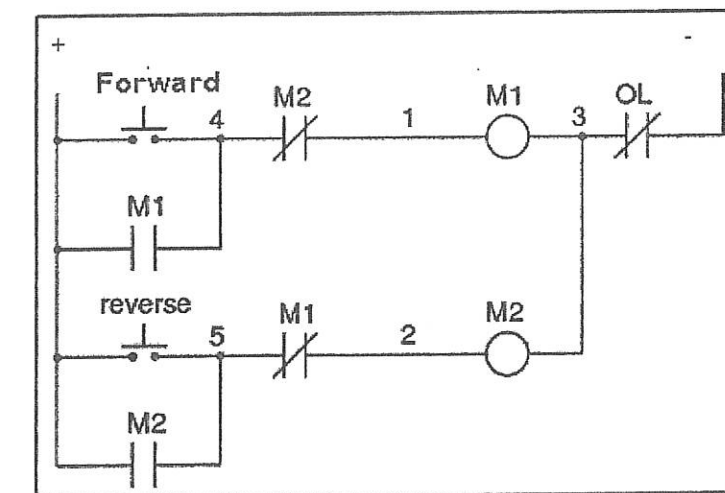

Figure 3/ Rajah 3
- (c) **Figure 3** shows a circuit diagram of system using PLC programming.
- List **THREE (3)** advantages of using PLC.
*Senaraikan TIGA (3) kebaikan menggunakan PLC.*